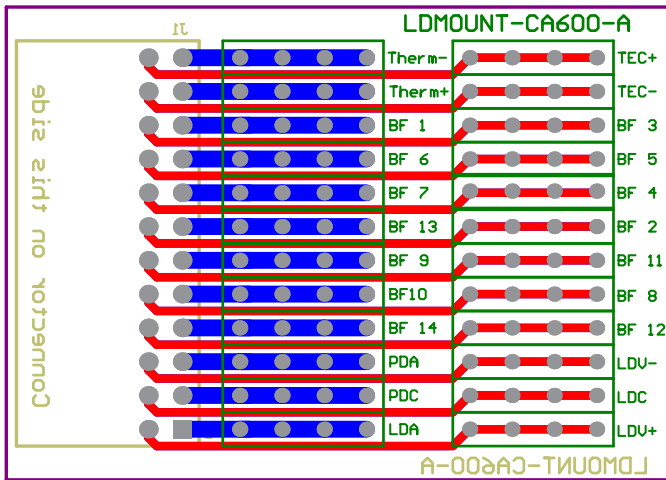

Figure 21. Layout of the Custom Butterfly Card.
The Custom Butterfly Card can be used to allow different butterfly packages (other than the Type 1 or Type 2 lasers shown) to be mounted in and used with the LDMOUNT. It comes raw (no pre-configured connections), and requires soldering by the user to make the desired connections. Additionally, it is the same size and uses the same mounting procedure as the connection card, but only has the connection available on one end. See **Figure 21** below for a layout of the Custom Butterfly Card.
**Figure 21** above shows the connections available on the Custom Butterfly Card. The red lines connect all of the vias that are found on that line. For example, the TEC+ has four available connection vias (outlined by a green box to the left of the TEC+ label) that are all tied together. These four vias are also tied to the connection header on the left-hand side of the figure. This labeling/connection scheme, four connection vias outlined with green to the left of the label, is common for all available connections. In order to make the required connections, the user must solder wires up to 22 gauge between the vias. It is recommended to use solid core wires when making connections.